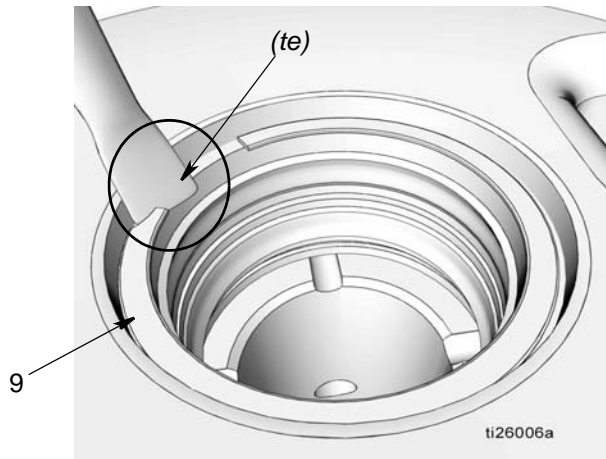

FIG. 26
- a. Slide the blade of a small, flat screw driver under the tapered edge (*te*) of retaining ring (9) and remove the ring as shown in FIG. 26.
- b. Remove the tapered spacer (10), seal (11), and spacer (12).
- c. Use the blade of a small, flat screw driver under the tapered edge (*fe*) of retaining ring (51) to remove the ring as shown in FIG. 26 and remove the retaining ring.
- d. Remove spacer (12), seal (11), and spacer (12).